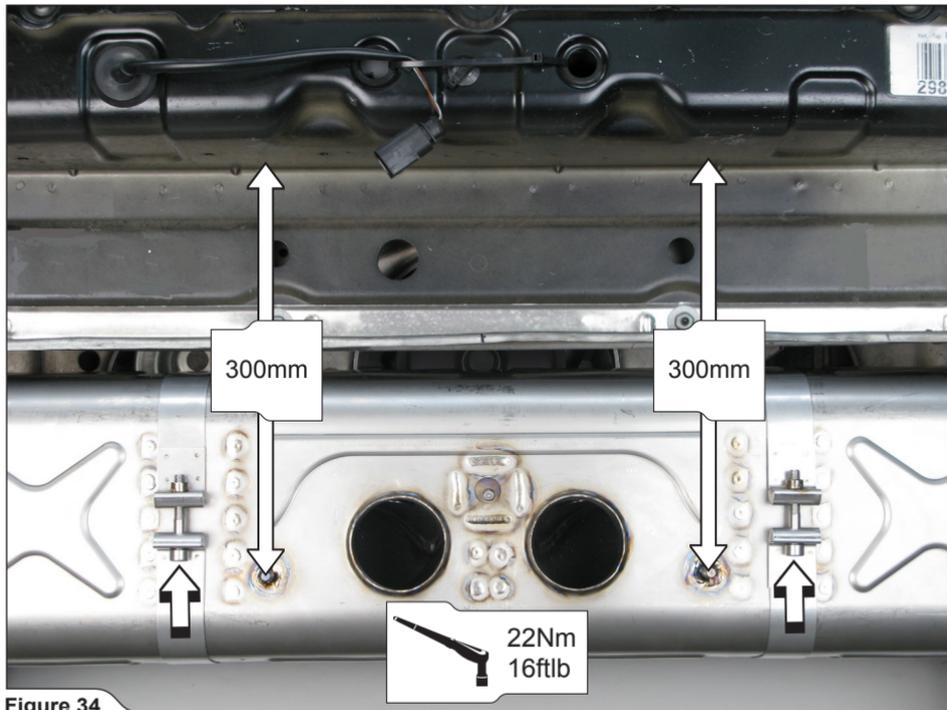

Figure 34
16. For Slip-On, Sports Cup, Evolution, Evolution-Race and SlipOn-Race: hang, center and align (see the reference measurement in figure) the muffler (Figure 34). Tighten the muffler clamps to a specified torque.